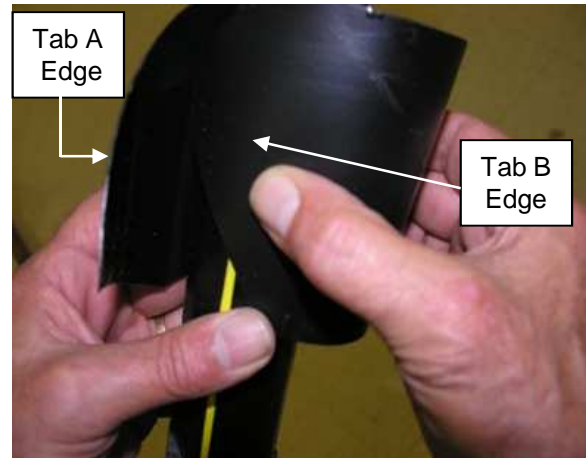

Figure 14
12.2 Hold Tab A edge in place and wrap Container around jacket. Insert Tab B edge under Tab A edge to form a cone-shaped enclosure around tube cable. **See Fig. 14.**